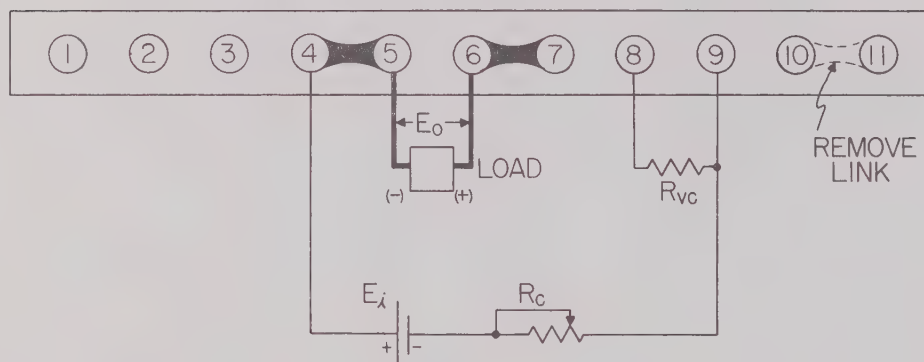

FIG. 3-9 CONNECTIONS FOR VOLTAGE PROGRAMMING
3-35 PROCEDURE (Refer to Fig. 3-9)
- Connect components as shown in Fig. 3-9, disconnect link between terminals (10) and (11) on the barrier strip.